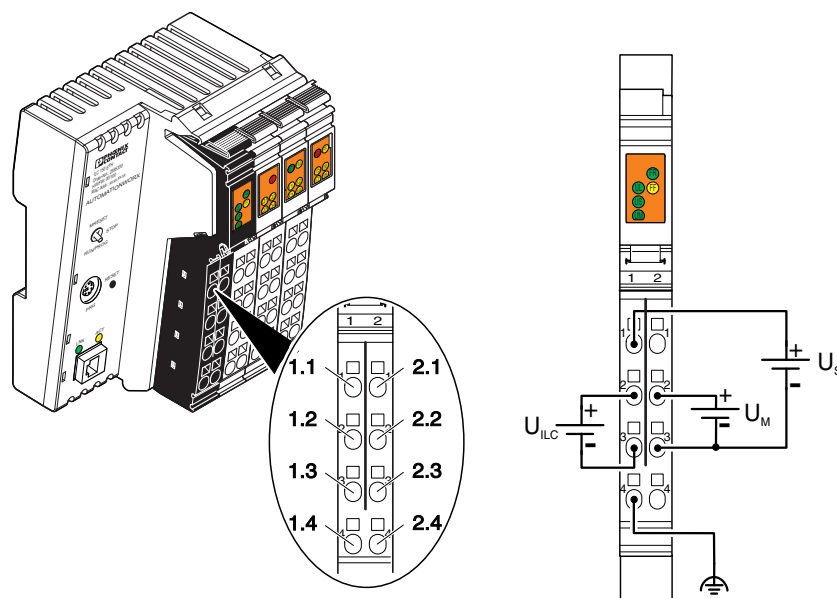

Figure 2-14 Power supply connection.
1. Connect the power supply to the connector as shown in Figure 2-14.
- You can provide segment voltage separately on terminal points 1.1 and 2.3 (GND) (see Figure 2-14 on page 2-17).